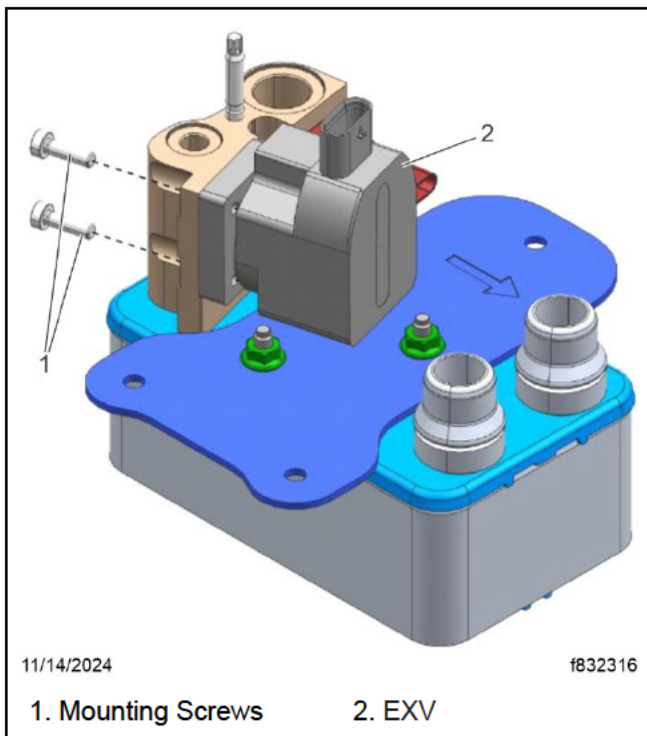

Fig. 9, EXV Mounting on the Chiller with Old Bracket
36. Remove the two mounting screws that attach the EXV to the **old** chiller. See **Fig. 9**.
39. Install the EXV and secure it with the help of the two original mounting screws. Tighten the fasteners 62 lbf·in (700 N·cm). See **Fig. 9**.